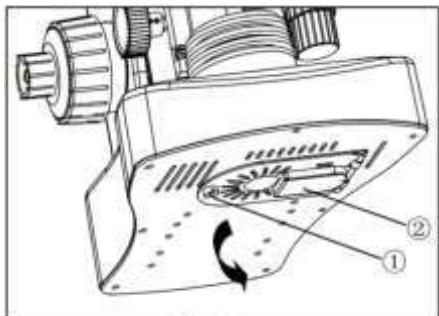

Fig.11
2.2.7 Installing and replacing the lamp (Fig.11, 12, 13)